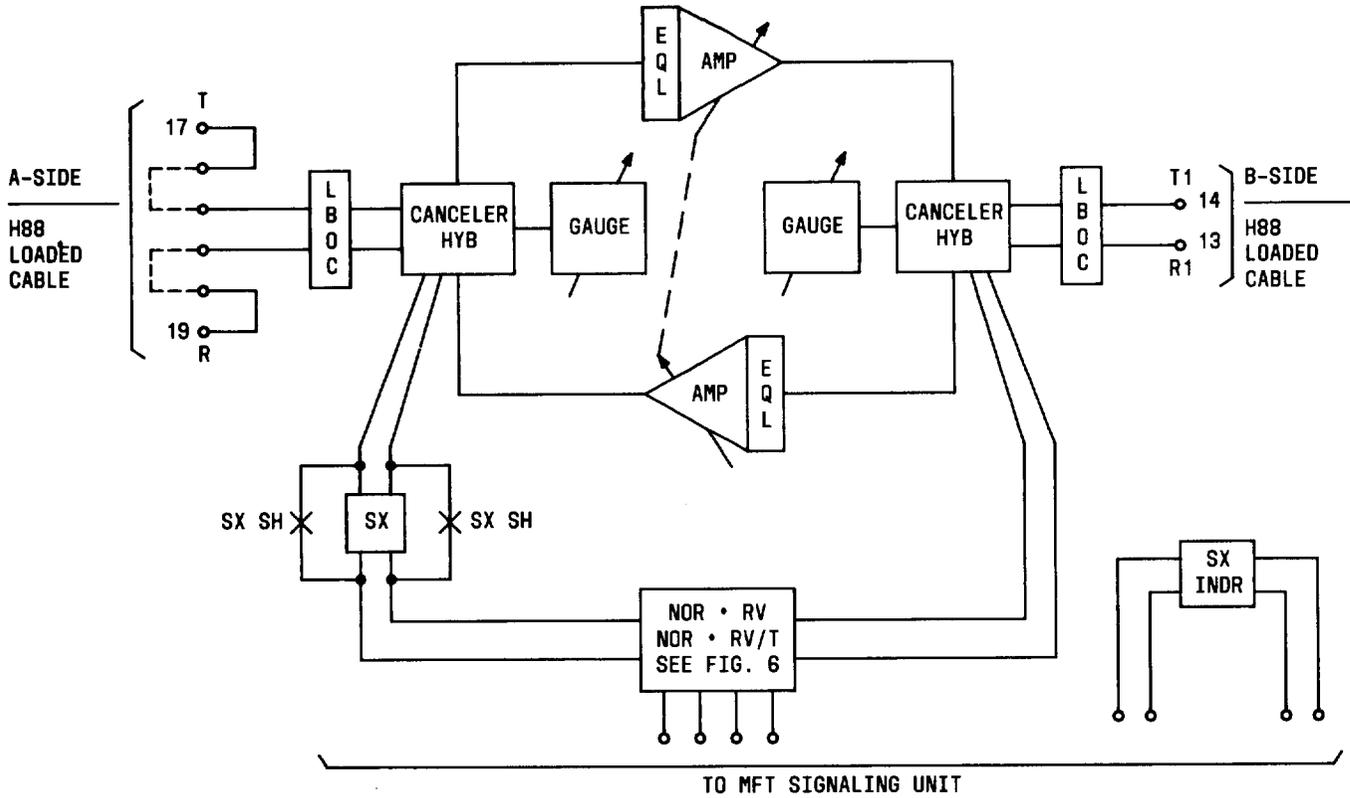

Fig. 8—Block Diagram of the 2-2 Intermediate (L-L) Repeater J99343PH, L2
3.01 The J99343PH, List 2 is shown in Fig. 7. It provides gain and equalization on 2-wire circuits between loaded facilities. Figure 8 shows a block diagram for this unit.